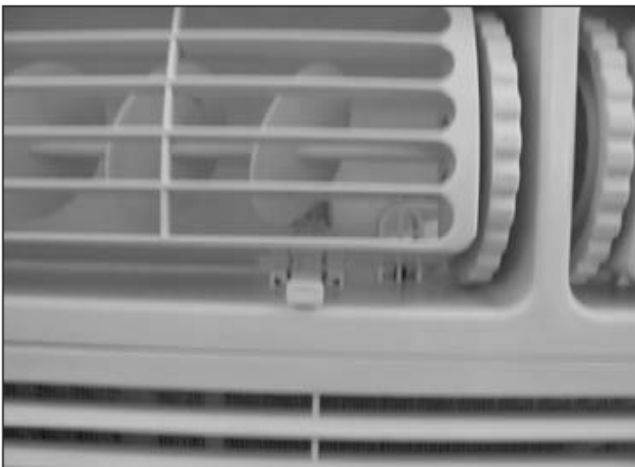

Figure 1 (VENT CLOSED)
1. Recirculate inside air — Vent Closed (see Fig. 1)